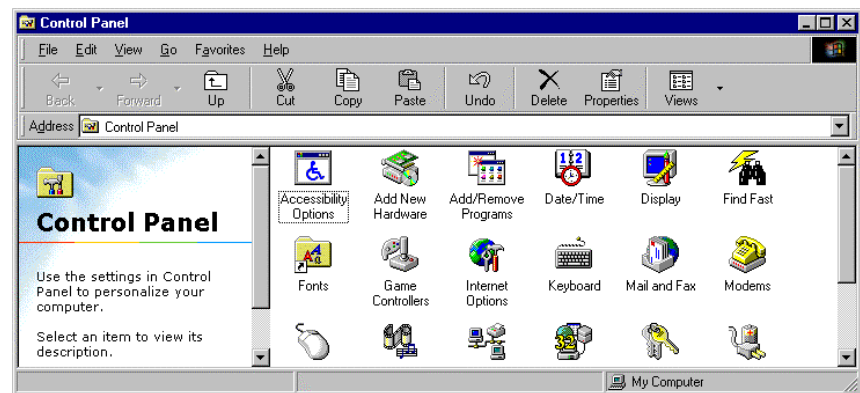

Fig. 1-1
- (1) Using the mouse, click the Start button of the Windows 98 and select **Settings - Control Panel**. The Control Panel window will then appear as shown in Fig. 1-1.